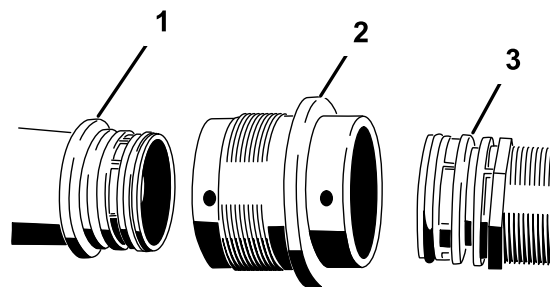

Figure 9
3. Remove the barbed fitting and retainer from the control valve assembly (Figure 9).
2. Connect the hose from the flow meter or supply tee as applicable to the control valve using an S67 female/female fitting and 2 large retainers (Figure 9).